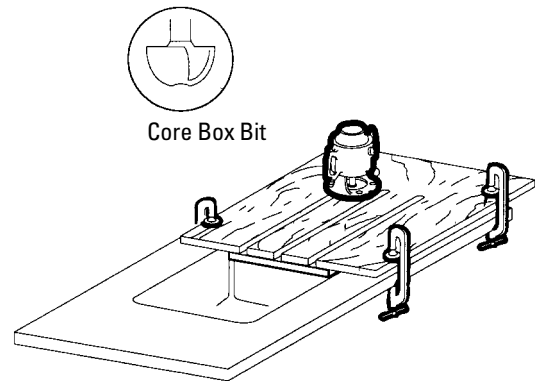

Figure 37
4. Rout the design (see Figure 37).